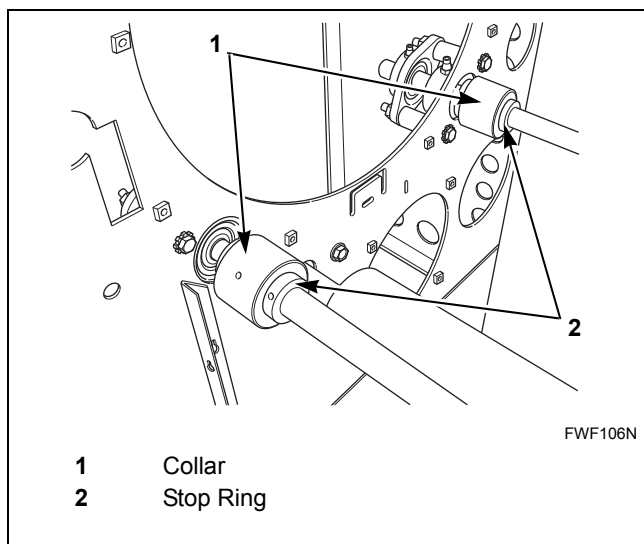

Figure 37
1. Collars are assembled on rod. Two stop rings are put on each side of collar to avoid movement. Refer to *Figure 37*.